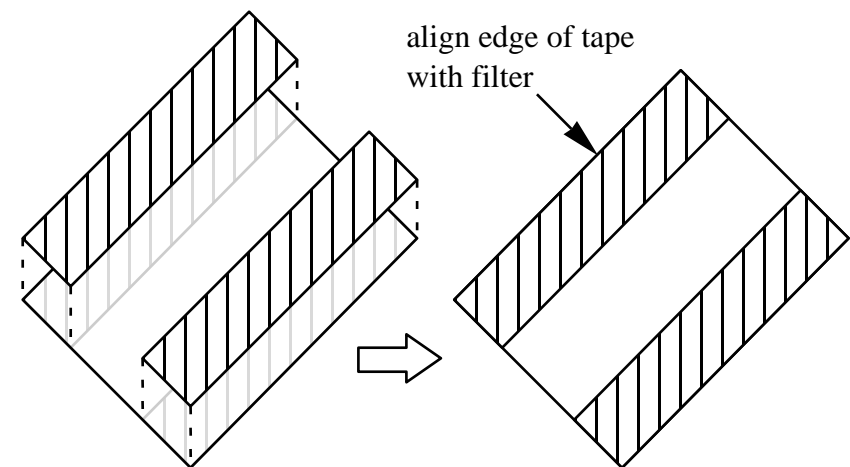

Figure 5-13
- Remove the white paper backing from one side of each piece of tape. Attach the tape to the *long* edges of the green filter (Figure 5-13). Be careful not to get any adhesive on the center portion of the filter, since it might be visible after installation.